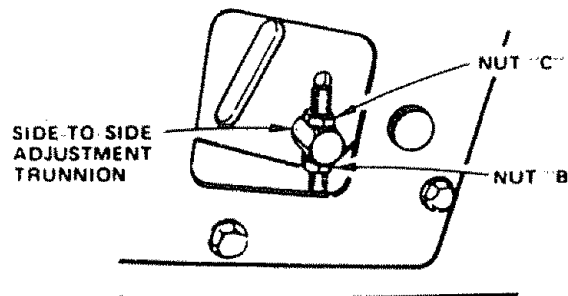

FIGURE 33
- If distance "A" needs to be changed, snap out access hole cover on L.H. side above footrest. Use 11/16" wrench on nuts "B" and "C" at side-to-side adjustment trunnion (Fig. 33).